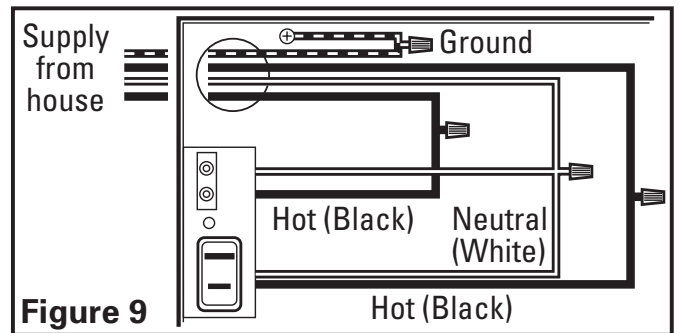

Figure 9
- 1a. From where you have access to inside the fan's junction box, connect the one white wire from the house to both the white wire from the fan's light receptacle and the white wire from the fan's exhaust receptacle. Connect the first black wire from the wall switch to the black wire from the fan's light receptacle. Connect the second black wire from the house to the fan's exhaust receptacle. Connect the ground wire from the house to the green wire from the fan's grounding screw (**Figure 9**). Use approved methods for all connections.